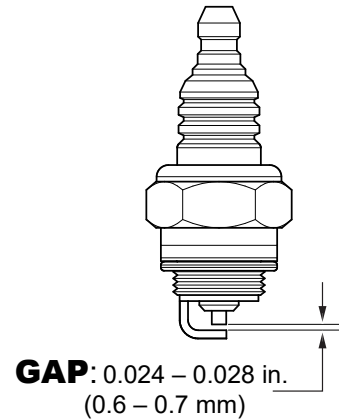

Figure 27. Spark Plug Gap
1. Remove and clean the spark plug (Figure 27), then adjust the spark gap to 0.024 ~0.028 inch (0.6~0.7 mm). This unit has electronic ignition, which requires no adjustments.